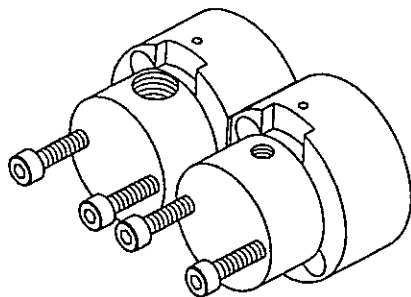

Figure 9.2 Removing the head setscrews
- (2) Disconnect the tubing from the pump head.
- (3) Remove the four setscrews from the pump head. See Fig. 9.2.